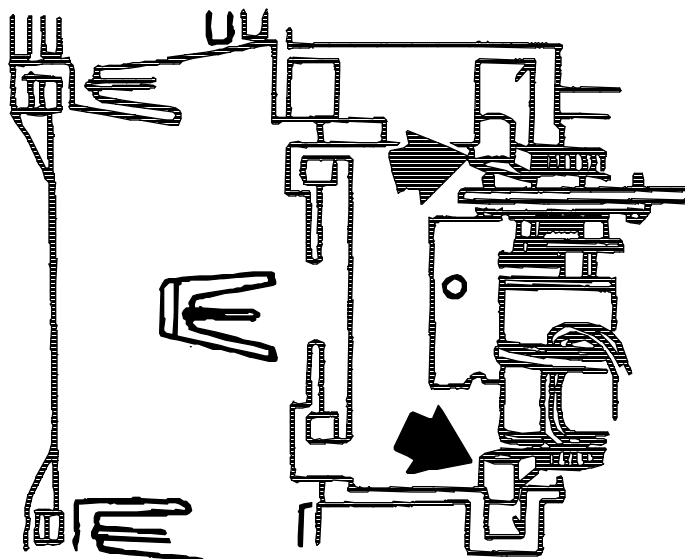

Figure 4-23 Rotating Cam Pivots Into Position
- 16.2 If Motor Drive is present, rotate gears manually (see 15.1) until cam pivots are in position shown (out of the Carrier channels). (Fig. 4-23)